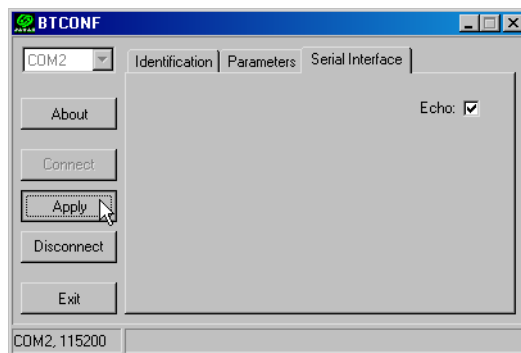

Figure 2-35. BTCONF Serial Interface Tab
9. Click the **Serial Interface** tab (Figure 2-35). Enable **Echo** to display Bluetooth® module replies and corresponding commands on the computer terminal. If needed, click **Apply**.